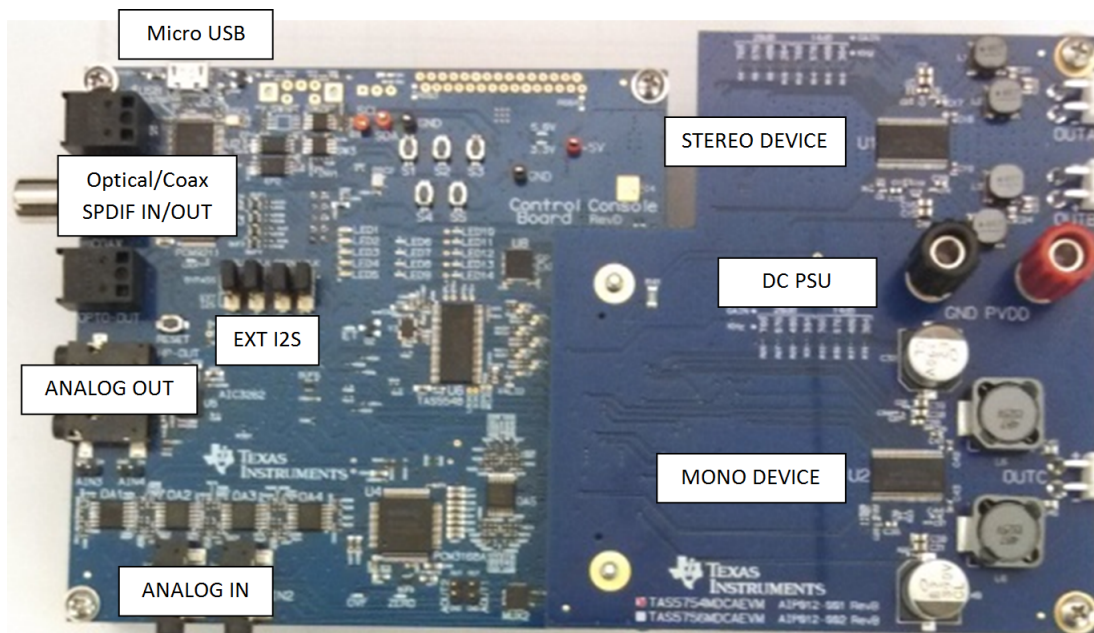

**Figure 2. Device Manager**
Upon power-on, the PPCMB uses USB audio input (default). The I2S signals, LRCLK, SCLK, SDIN, and MCLK, come from the TAS1020B. foobar2000 or similar non-processing media source can be used to stream audio. The TAS1020B enumerates as the following device on a Microsoft® Windows® operating system (OS): USB audio (USB-miniEVM), Human Interface Devices, and USB Composite Device, see Figure 2.